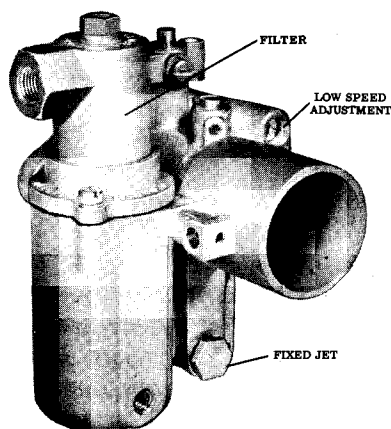

Figure 12. Idle Adjustment Screw
5. With engine running at idling speed while in forward gear, turn low speed mixture adjusting needle counterclockwise until affected cylinders start to "load up" or fire unevenly due to over-rich mixture. (Figure 12)